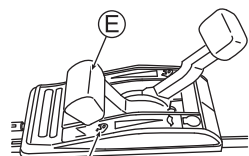

Fig. 17
2. Set the throttle lever (E) to "START" to start mowing. (See Fig. 17)